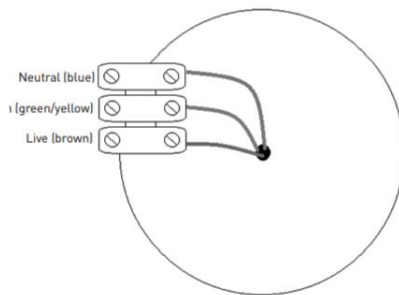

Fig. 1
- Connect the luminaire to the mains supply ensuring the correct polarity is observed (see Fig. 1):